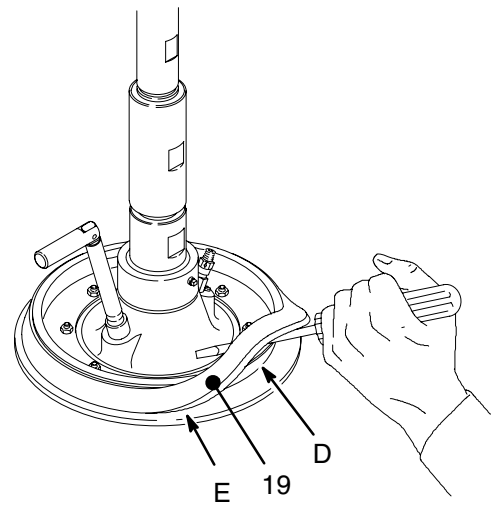
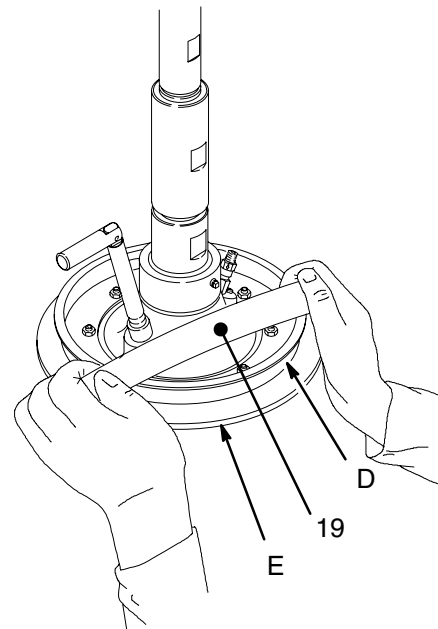
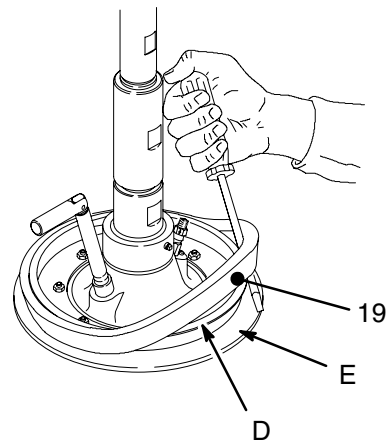

Fig. 6
Fig. 7
Fig. 8
- a. **To use the wiper plate with straight sided pails**, the large spacer (19) must be inverted. *Working from the bottom*, use a screwdriver to pry the spacer loose. Work it upward so it is completely above the flange (D) of the wiper plate. See Fig. 6. Next, by hand, angle the spacer and work it off the plate, pulling it down over the flange and bottom wipers (E). See Fig. 7. Turn the spacer so the large diameter is facing **up**. Work the spacer up over the wiper plate by hand, so it is completely above the flange (D) of the wiper plate. *Working from the top*, use a screwdriver to position the spacer between the flange (D) and the wipers (E). See Fig. 8.
- b. **To use the wiper plate with tapered pails**, the large spacer (19) must be removed. *Working from the bottom*, use a screwdriver to pry the spacer loose. Work it upward so it is completely above the flange (D) of the wiper plate. See Fig. 6. Next, by hand, angle the spacer and work it off the plate, pulling it down over the flange and bottom wipers (E). See Fig. 7. Save the spacer, as it is required for other applications.